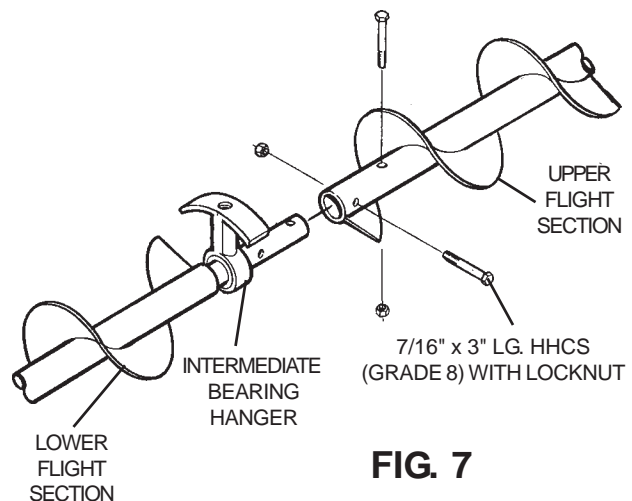

FIG. 7
2. For flights located above the gearbox, slide a bearing hanger onto each flight connecting stub, then connect the flight sections together using 7/16" x 3" long (grade 8) hex head capscrews with side depress locknuts. See Fig. 7. The bearing hanger can then be allowed to rotate downward.